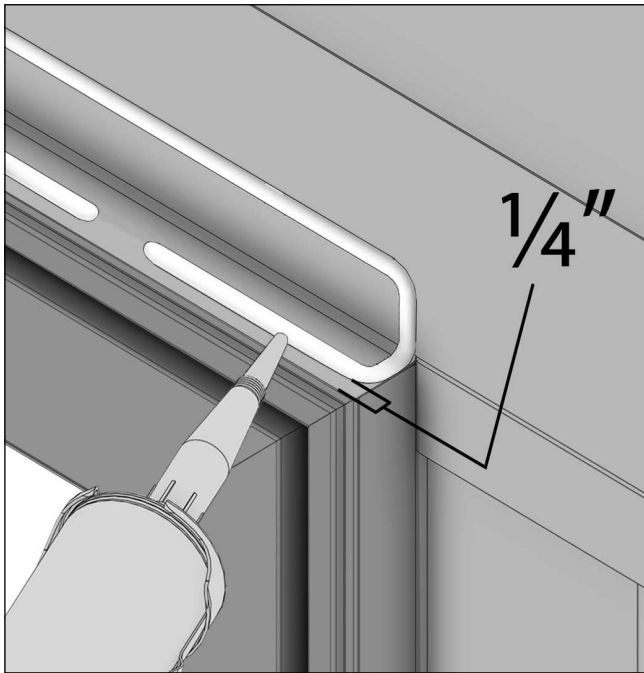
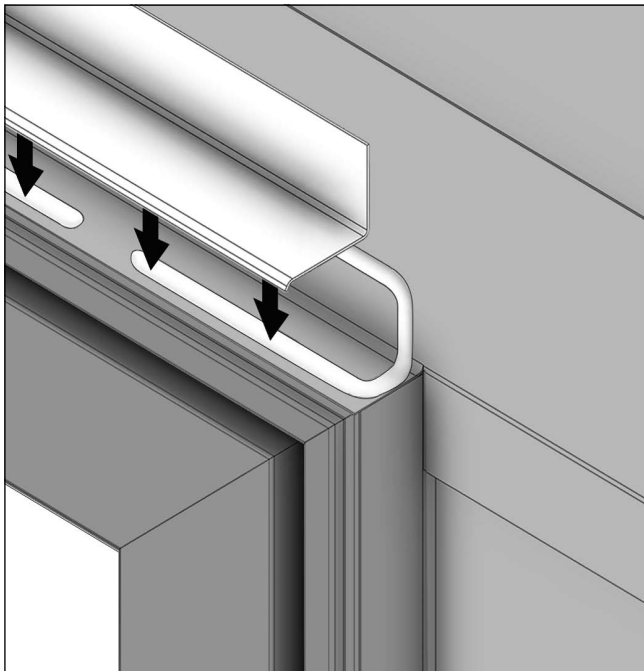

Figure 18
Figure 19
9. Install Rigid Head Jamb flashing. See Figure 18 and Figure 19